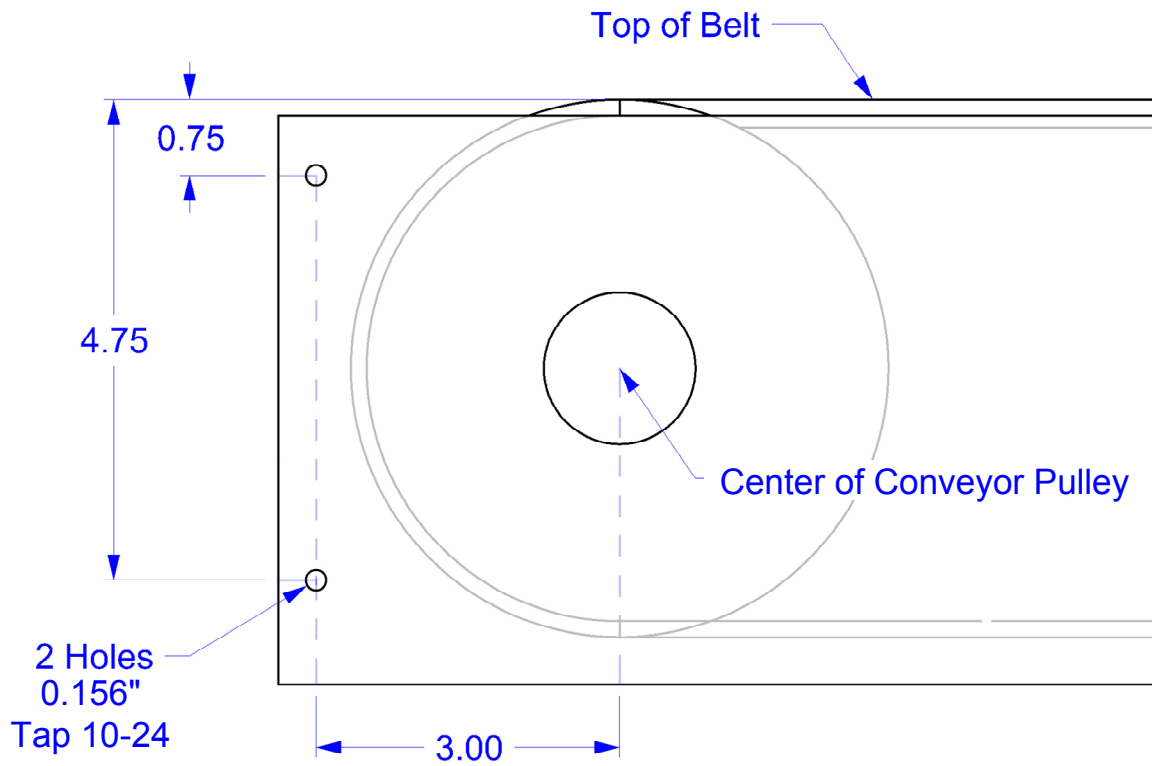
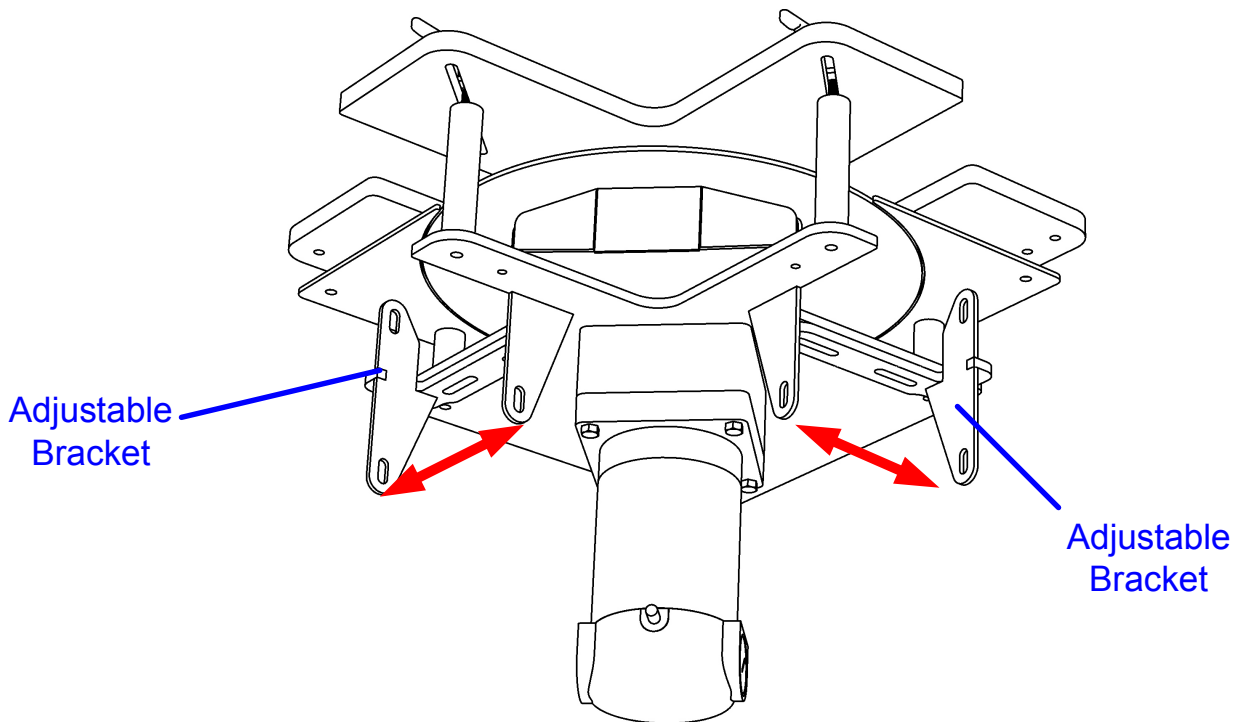
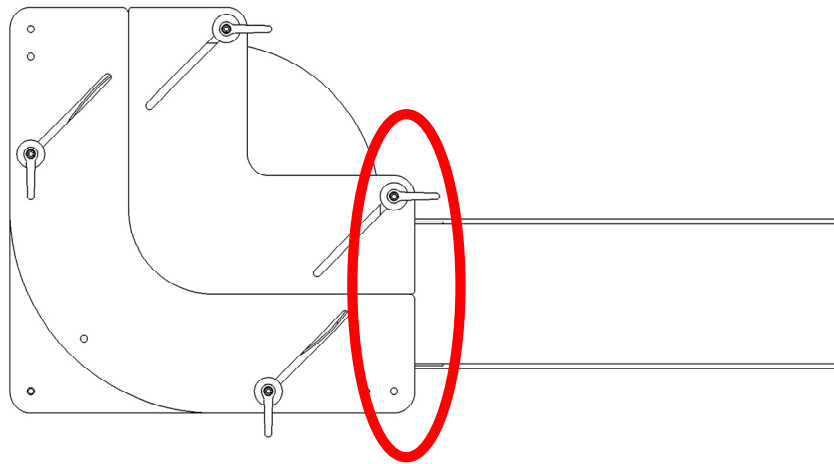

Figure 1: Bolt Pattern for mounting TD120 on Conveyor
Figure 2: Bracket Width Adjustment
Figure 3: Install TD120 onto first conveyor
1. Use the dimensions in *Figure 1* to layout the hole pattern on the two conveyors that will be bolted to the TD120. Manually place the TD120 into position to verify the TD120 will fit. Note that it may be required to adjust the width of the Adjustable Bracket to fit the conveyor. To perform this, loosen the bolt attached to the Adjustable Bracket and slide to the desired width. Refer to *Figure 2*. Fully Tighten.
2. Drill (8) 0.156 Holes from the pattern. (4) holes per each conveyor.
4. Align the TD120 to the tapped holes on one conveyor and install the (4) 10-24 Bolts. Do not fully tighten. Refer to *Figure 3*.